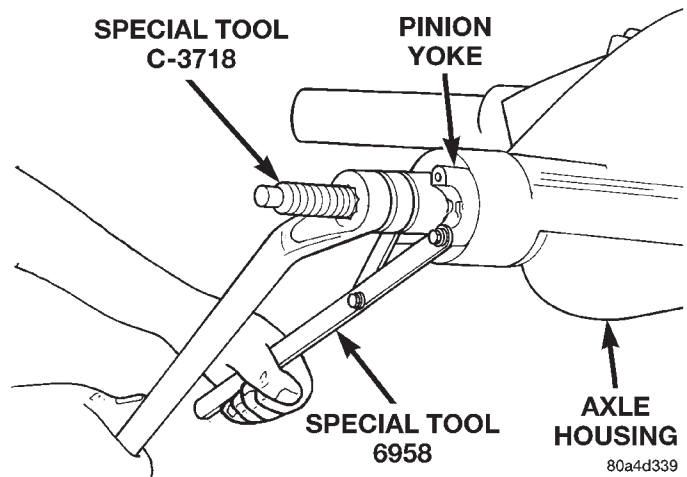

Fig. 22 Pinion Yoke Installation
- (5) Install yoke with Installer C-3718 and Holder 6958 (Fig. 22).